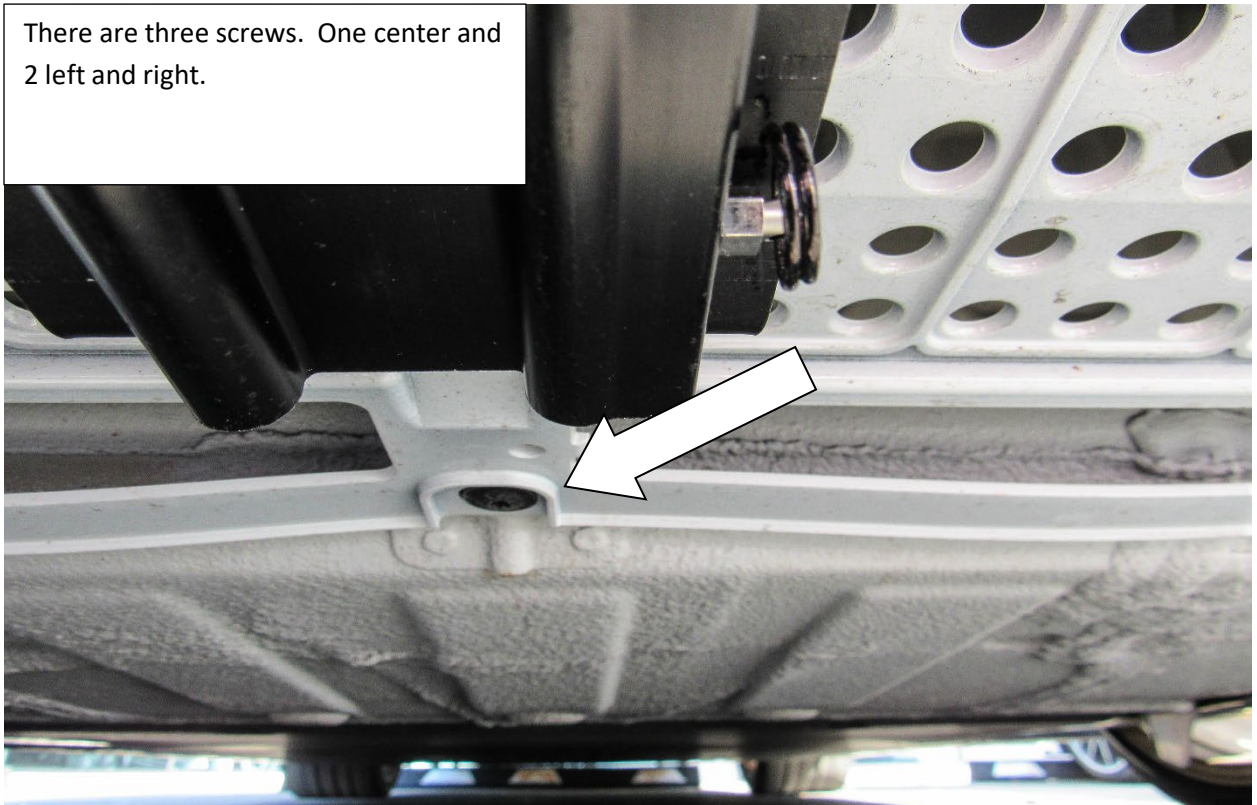
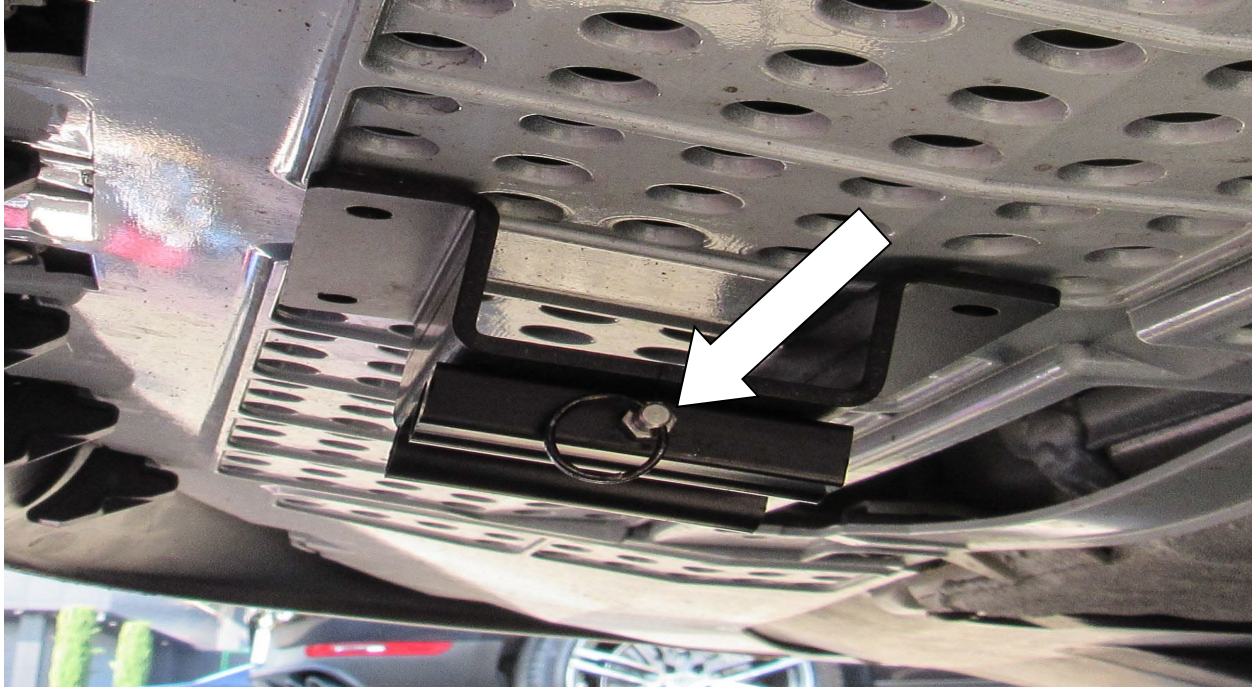

Fig 5
Fig6
Step 7: Slide the license plate rods into the two tubes located on the base plate. Slide the rods into the tubes until the rods hit the pull pin. Simply pull the ring on the pull pin and advance the rods. Release ring and continue to advance rods until the pull pin locks into place. **Note: The rods and spring-loaded pull pin are required to be sprayed periodically with WD-40 or any other silicone type spray lube. Failure to do so could result in either the failure of the pull pin or the rods becoming difficult to remove or reinsert. Note: In harsh environments, such as areas where roads are either salted or sanded in the winter, spraying of the rods and pull pin should be performed on a regular basis. Failure to provide this maintenance may void your warranty.** See figure 5. On some occasions the license plate may require a little adjustment to level. Simply pull pin and slide plate out approximately two inches, grab frame at arrows (See figure 6) and rotate. If plate is high on left or right side, rotate high side down slightly and release. Verify alignment and repeat as necessary. Once leveled plate will remain level.